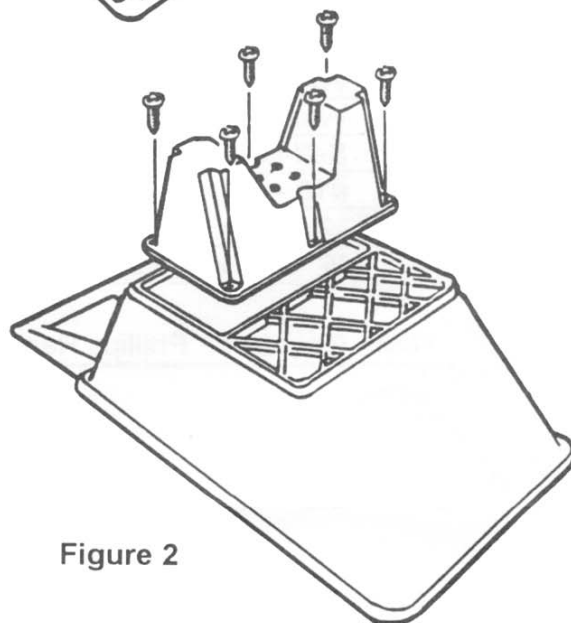

Figure 2
3. Place support stand on bottom of cart toward rear of cart and secure with six (6) 1/4" -- 14 x 1" screws. Four holes in center of support stand are for optional caster kit (#5641) and are not used in this application. See Figure 2.